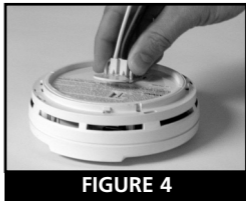

FIGURE 4
- Plug the AC QUICK CONNECTOR into the back of the alarm (see figure 4), making sure that the locks on the connector snap into place. Then push the excess wire back into the electrical box through the hole in the center of the mounting bracket.